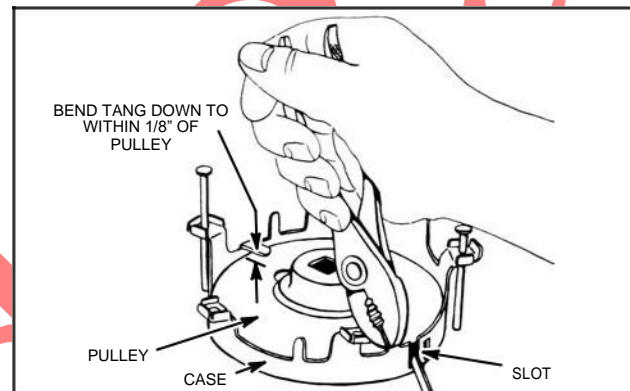

Fig. 592 – BENDING PULLEY TANGS
11. Bend down two (2) tangs opposite one another to within 1/8" of pulley surface. Do not use four (4) tangs, Fig. 592.